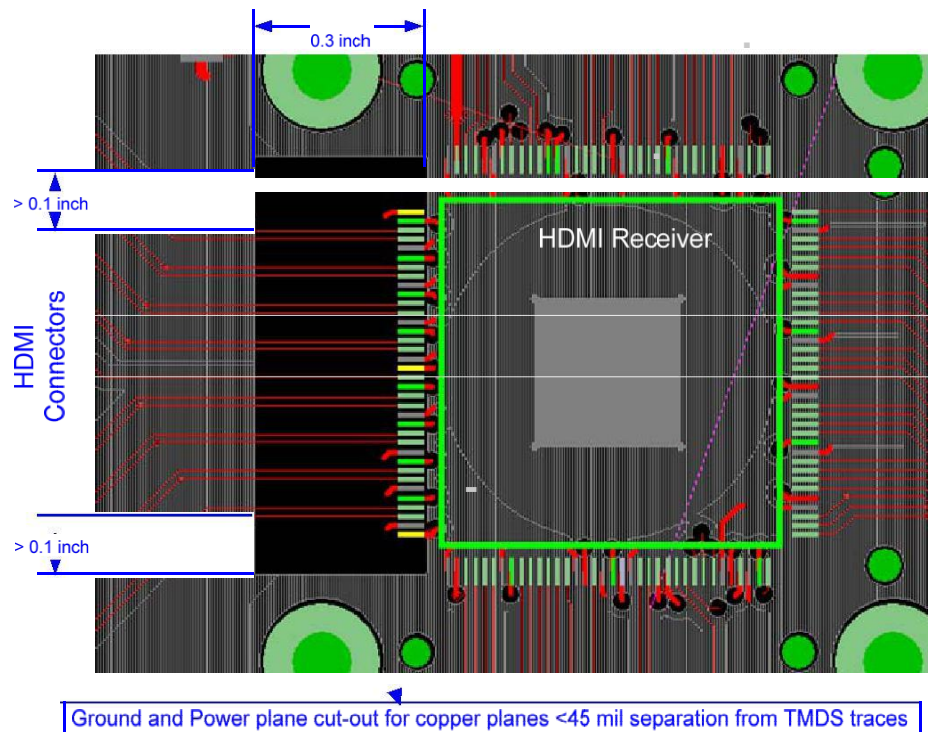

Figure 39. Cut-out Reference Plane Dimensions
- Cut-out all ground and power planes that are less than 45 mils below the TMDS traces within the area having the dimensions shown in Figure 39.